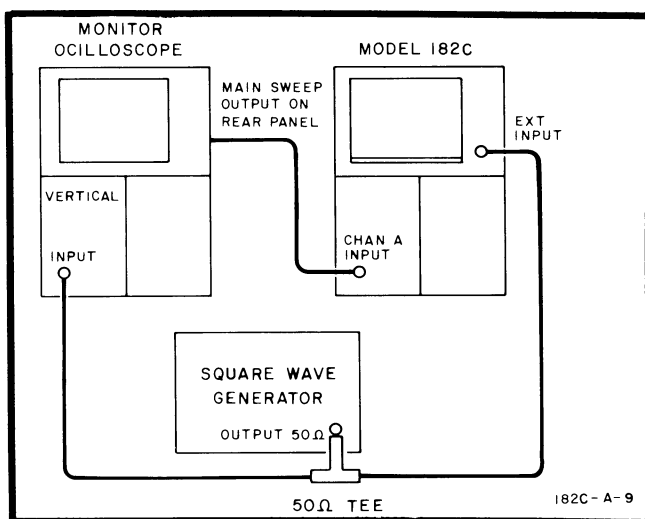

Figure 5-5. Transient Response Adjustment Test Setup
- d. Connect 1 $\mu\text{sec}/\text{div}$ sweep signal from Monitor Oscilloscope rear-panel Main Sweep Output to Channel A input of Model 182C. See Figure 5-5.